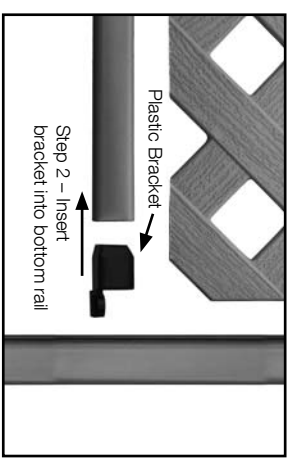

Fig 5
2. Insert a plastic bracket into each end of the BOTTOM C-channel and tap into place gently as shown in Fig. 5. Take care not to damage the brackets.